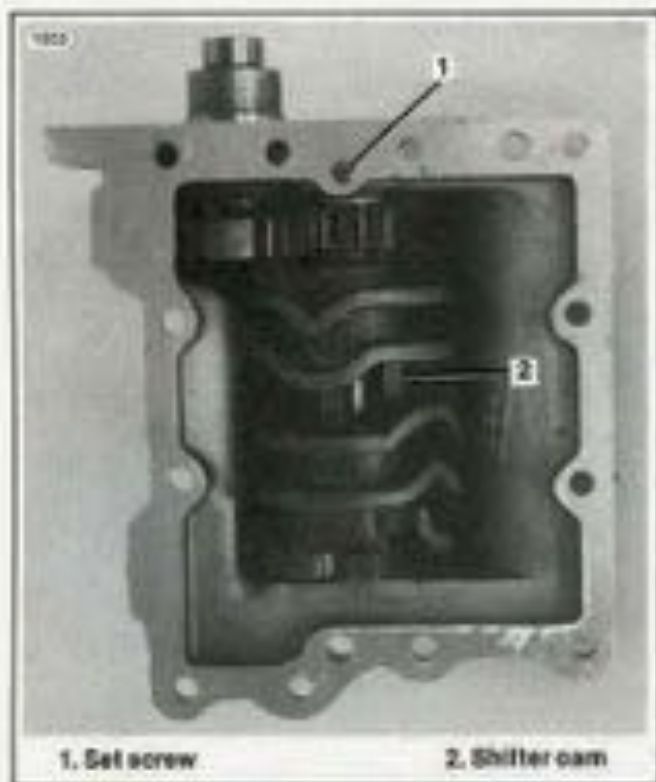

Figure 7-6. Shifter Cam Set Screw
7. See Figure 7-6. Remove the set screw (1). Use a suitable drift and tap the cam shaft out of the cover and remove the shifter cam (2).
See Figure 7-6. Insert the cam shaft through the cover and cam until the slotted end is visible in the set screw hole. Install the set screw until it bottoms on the shaft.